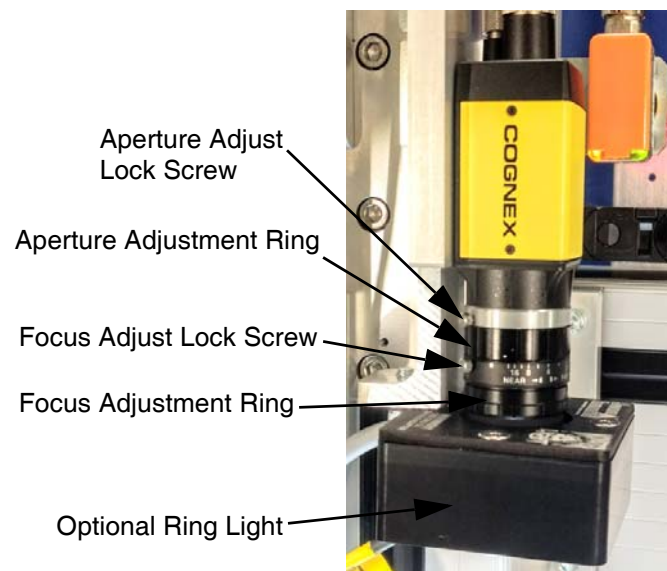

FIG. 14: Camera Parts
11. Make sure the focus and aperture lock screws are tightened. See **Figure 14** on page 72 for the location of these parts.